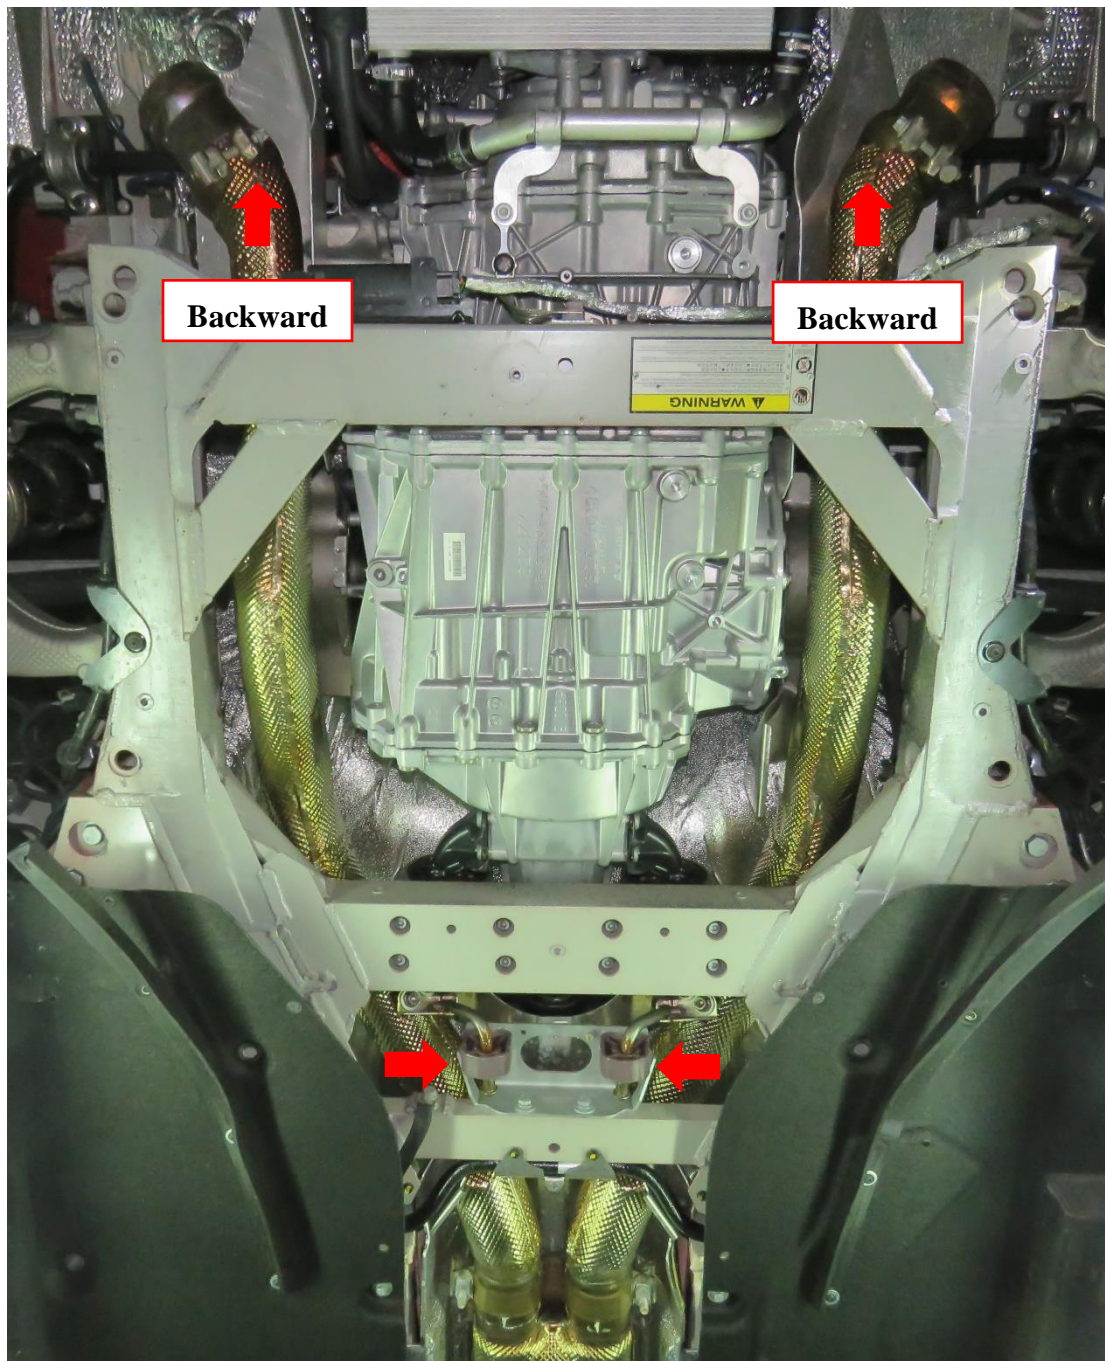

Fig. 6
6. Remove bushes from the front of the muffler and move them backward so that have space to removal the mid pipe. (Fig 6)